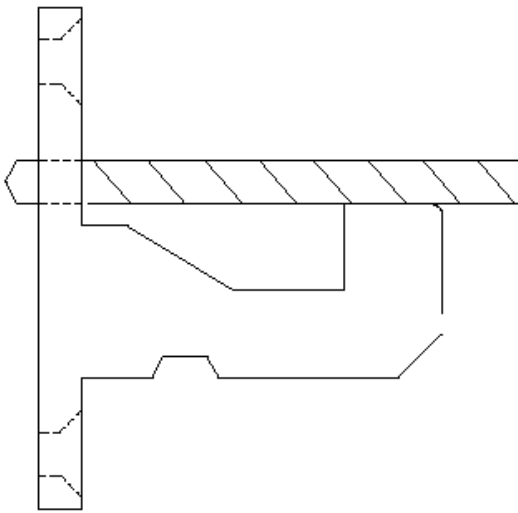

FIG 5
5. Drill holes as per the template. Attach the keeper to the door. Drill the ¼" release hole in the door, using the hole in the keeper flange and the top of the keeper as a guide – see Fig 5. Remove the keeper.